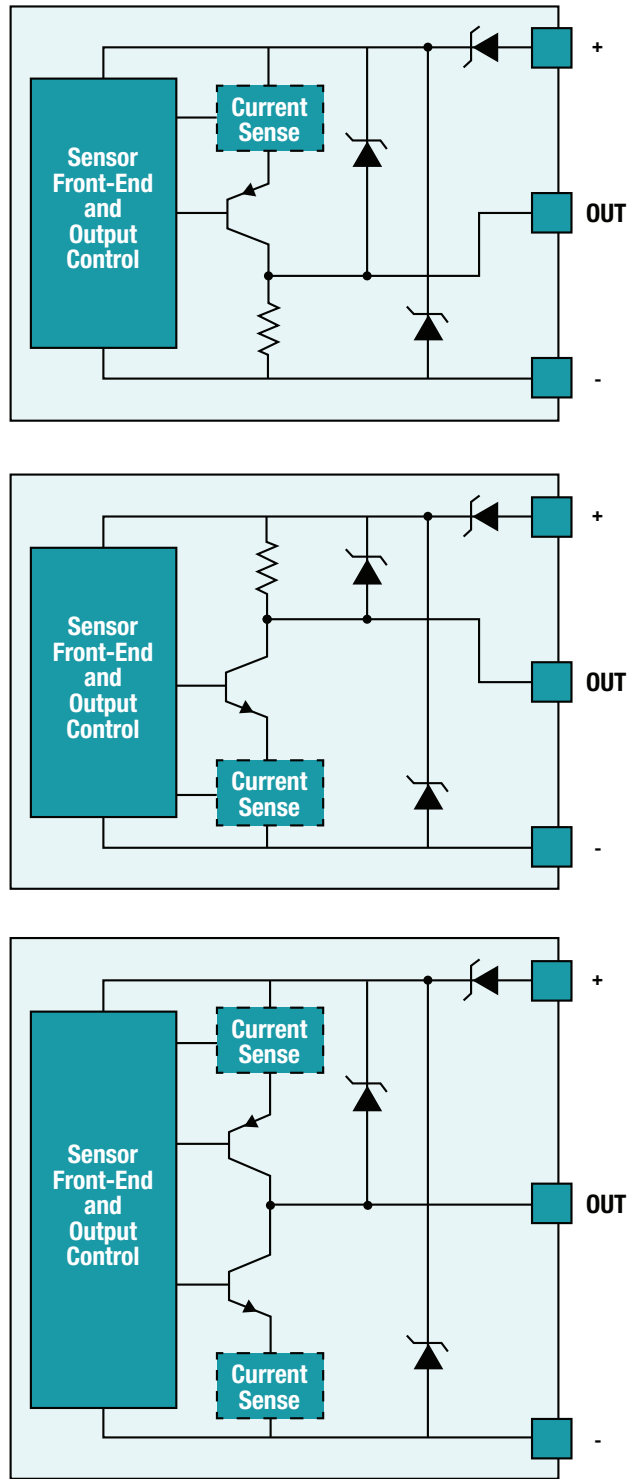
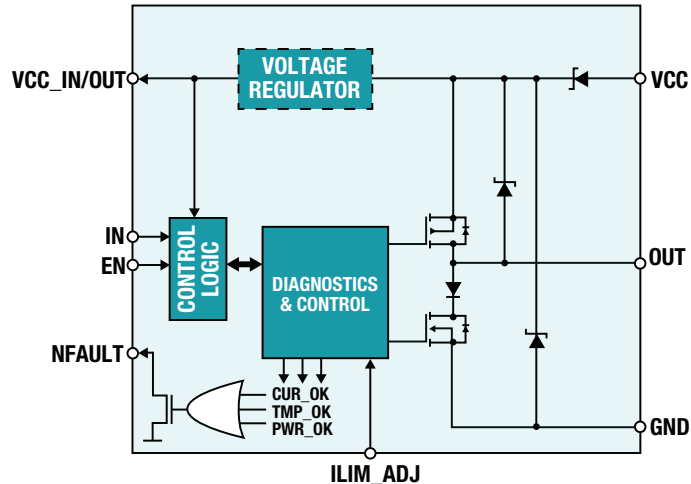

Figure 2. PNP (top), NPN (center) and push-pull (bottom) output implementations.
Figure 3. TIOS101 block diagram.
Figure 2 shows example implementations for PNP (top), NPN (center) and push-pull (bottom) outputs.
- Overcurrent protection is necessary in order to prevent excess power dissipation in the transistor, since thermal damage could occur if not controlled. This protection requires a current-sensing circuit placed in series with the transistor, which unfortunately can result in a drop in voltage at the sensor output. In some cases, this extra voltage drop prevents the sensor from meeting the input-voltage specifications of the digital input to which it connects. You will also need some additional logic (not shown in **Figure 2**) to control the output transistor accordingly so that it is disabled (high impedance) when an overcurrent condition persists.
Semiconductor vendors have responded to the market need for smaller, more robust and more flexible sensors by developing highly integrated solutions that implement all of the functionality shown in **Figure 2** in a single integrated circuit. **Figure 3** shows an example of such a device, TI's TIOS101.